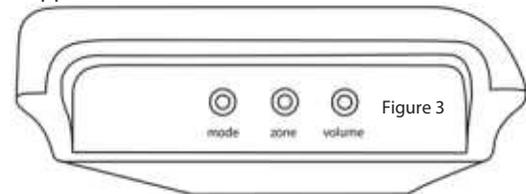

Figure 3
1. On the ERA-DCRX receiver, hold down the "mode" (left button in figure 3 below) button until you hear a short tone sound & the "zone 1" LED flashes (approx 3 sec).